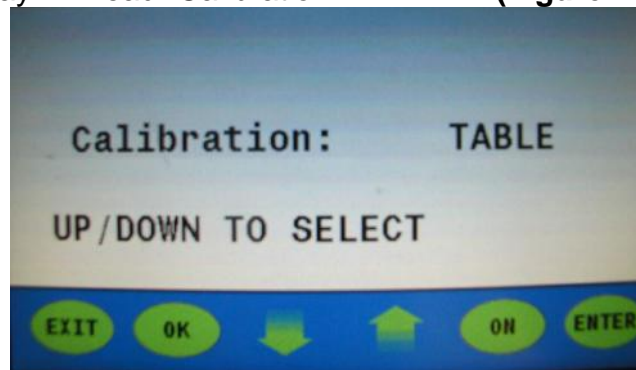

Figure 15
12. The display will read “Calibration: TABLE”. **(Figure 15)**